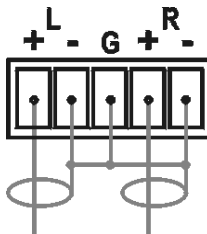

Figure 5: Unbalanced Stereo Audio Connection
- An unbalanced stereo output connection, see Figure 5